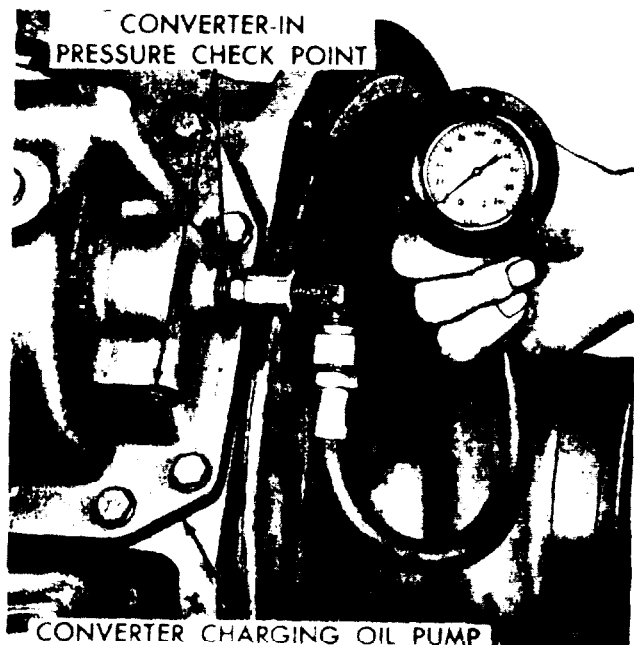

Figure 4C-4. Checking Converter-in Pressure
Check to see whether seal rin (see item 10, Figure 4C-39 on page 4C-341, is preventing the cover from adequately squeezing the bearing outer race. The seal chamfer must be large enough to prevent the seal from overlapping the chamfer and holding the cover away from the flywheel.